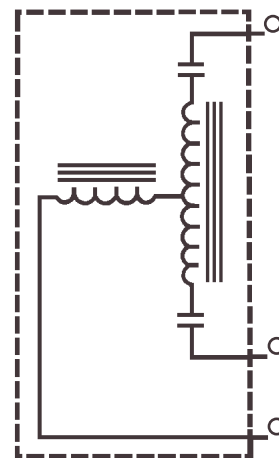

Figure 3: Transformer Exciting Network (TEN)
4.04 The TEN (Fig. 3) is a well balanced